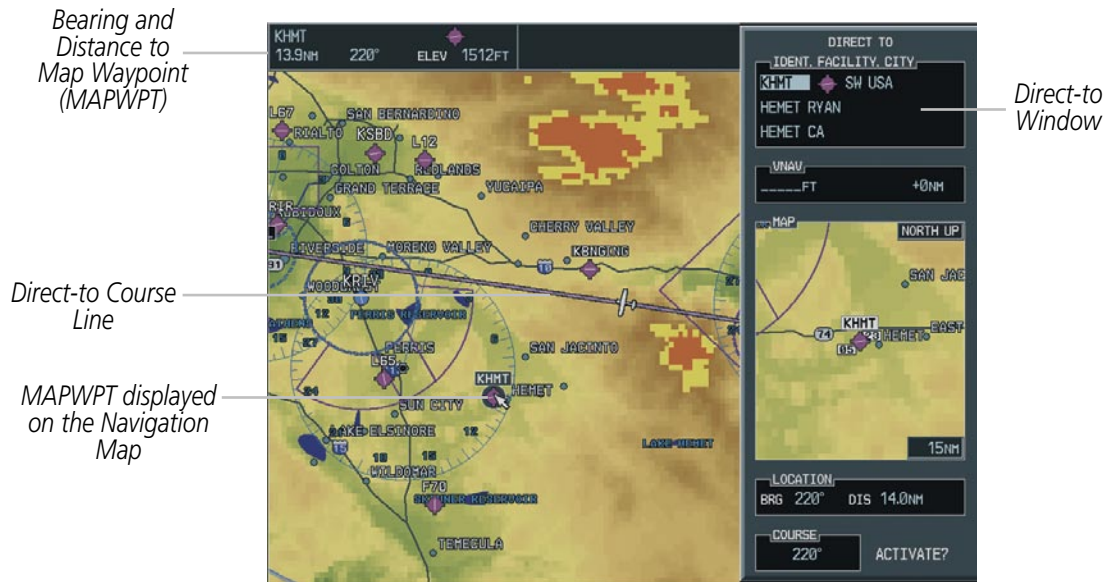

Figure 5-31 Direct-to Navigation Using Map Panning
- 6) Press the **ENT** Key twice to create a 'MAPWPT' waypoint and then navigate to it (Figure 5-31).